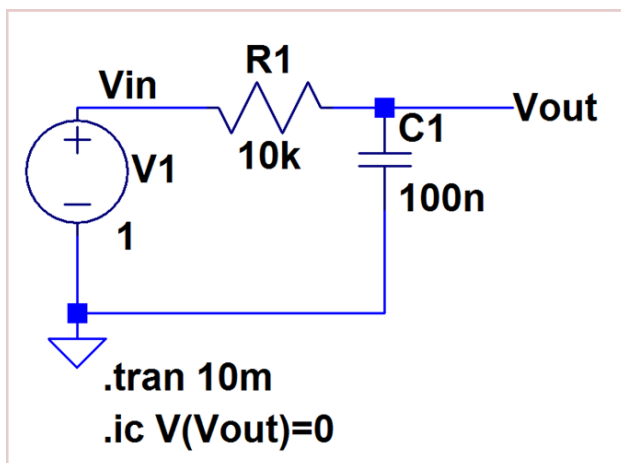

Figure 11. Low-pass RC circuit.
1. Calculate the time constant for the circuit shown below in Fig. 11. **(Hand Calc)**
2. Simulate the schematic shown in Fig. 11. Verify the calculated time constant. **(Schematic, Plot)**